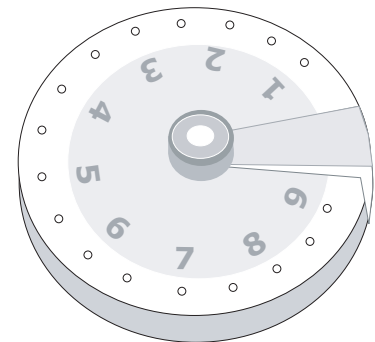

Fig. 6-1
**2.** The accurate method for checking pattern uniformity is to lay out shallow boxes or pans in a row on a line perpendicular to the direction of spreader travel. Eleven pans (included in the optional calibration kit), two inches high, placed on two-foot centers will provide accurate calibration to conduct the test. Insert the #13 step of the provided calibration gauge (See Fig. 5-1) into the Center Hole as shown (See Fig.5-3). Pull the fertilizer lever on the handle back until the slide plate touches the gauge. Lock in the setting by adjusting the rate dial (See Fig. 6-1).
- 3 Shift into High (H) gear, and time yourself over the course. Do the test several times to get an average **elapsed time**.
- 7 If that time is less than your elapsed time, rotate the spreader rate dial (FIG. 6-1) to a lower number. If that time is longer than the elapsed time, select a higher number. Retest and adjust as needed.
- 9 Repeat the entire process for Low (L) gear.